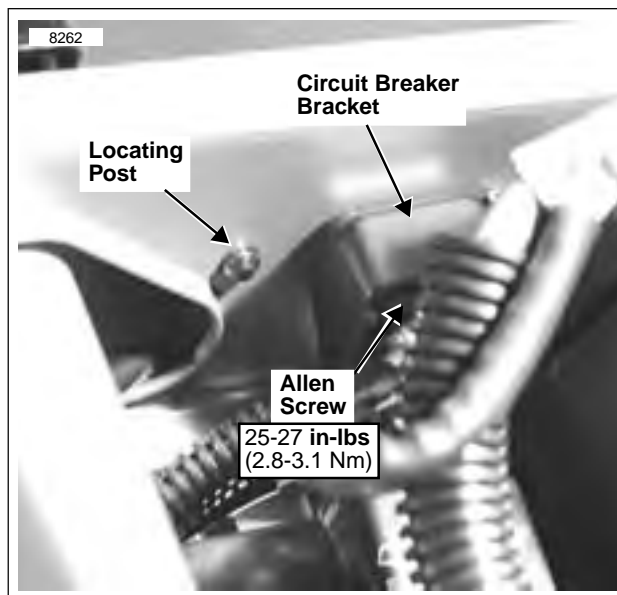

Figure 7-12. Bank Angle Sensor Installation
2. See Figure 7-12. Position Bank Angle Sensor in mounting position on circuit breaker bracket mounting screw. Make sure sensor locating post engages hole in trunk to ensure proper alignment of sensor.